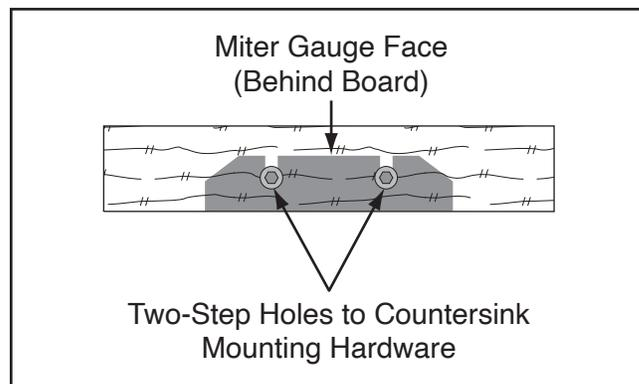

Figure 4. Location of countersunk mounting holes.
3. Drill countersunk mounting holes in board so fasteners (not included) can be used to secure fence to miter gauge (see **Figure 4**).